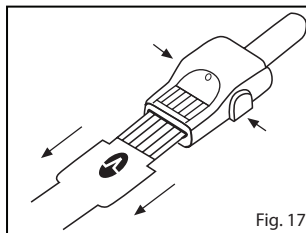

Fig. 17
1. Refer to **Fig. 17**. Place thumb and index finger on the buttons on either side of the patient cable connector. Press firmly on the buttons and pull to remove it from the patient cable.